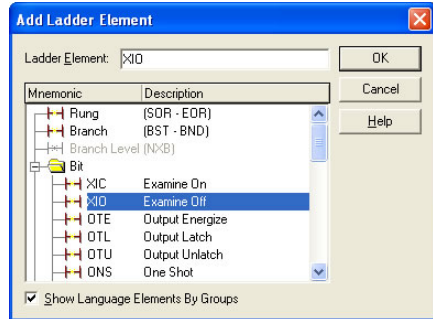

Figure 96: Adding an XIO Element
- Select the “XIO” element in the Bit folder. Refer to Figure 96.